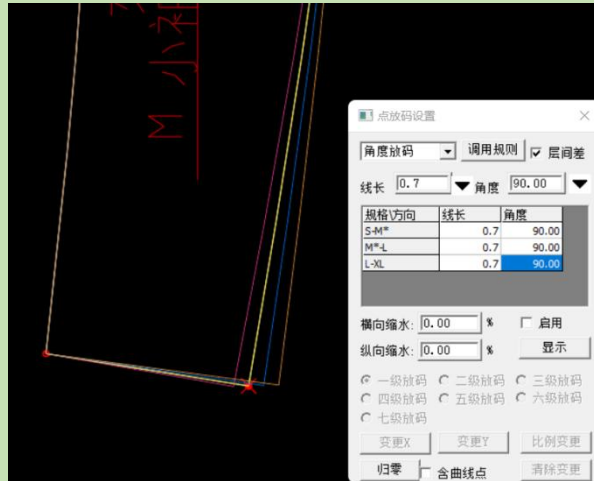

Figure5-57
2. Enter the grading amount (line length, angle) as shown in Figure 5-57 (Note: The grading amount of the angle is positive in the clockwise direction and negative in the counterclockwise direction).